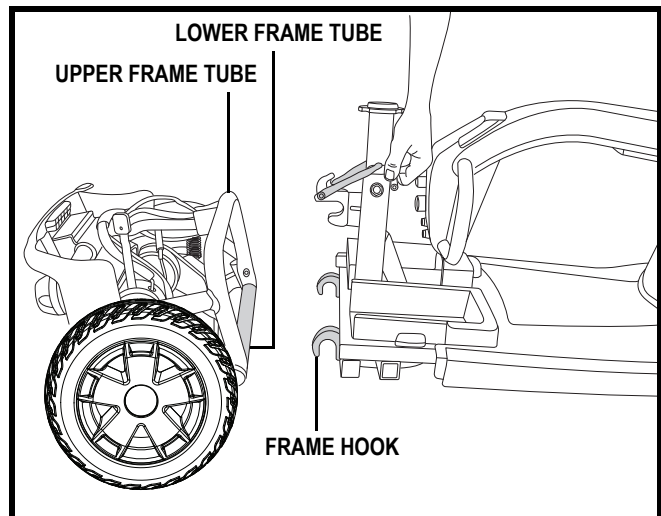

Figure 25. Frame Separation
**NOTE:** Stabilize the rear section with your free hand by holding onto the upper frame tube. See figure 25.
3. Slowly separate the two sections. See figure 25.